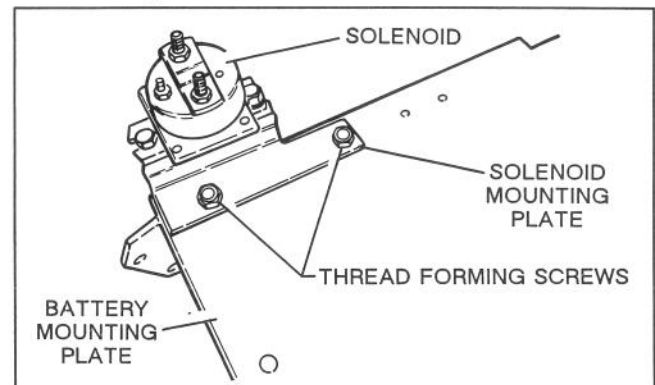

Figure 13
20. Secure solenoid mounting plate to battery mounting plate with (2) thread forming screws as shown in fig.13.
21. Secure solenoid to mounting plate with (2) capscrews and locknuts as shown in fig.13.